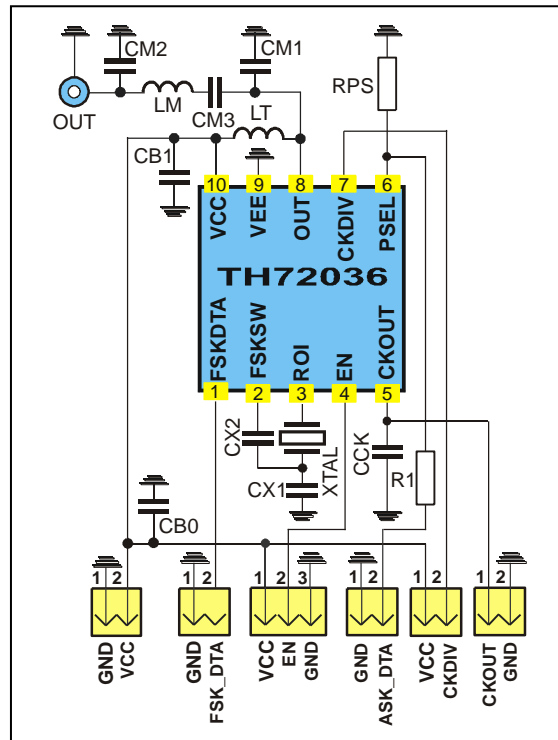

Fig. 6: Test circuit for FSK and ASK with 50 Ω matching network
typical values at $T_A = 23\text{ }^\circ\text{C}$ and $V_{CC} = 3\text{ V}$; test circuit shown in Fig. 6, $f_c = 868.3\text{ MHz}$
typical values at $T_A = 23\text{ }^\circ\text{C}$ and $V_{CC} = 3\text{ V}$; test circuit shown in Fig. 6
5.1. Test circuit component list to Fig. 6